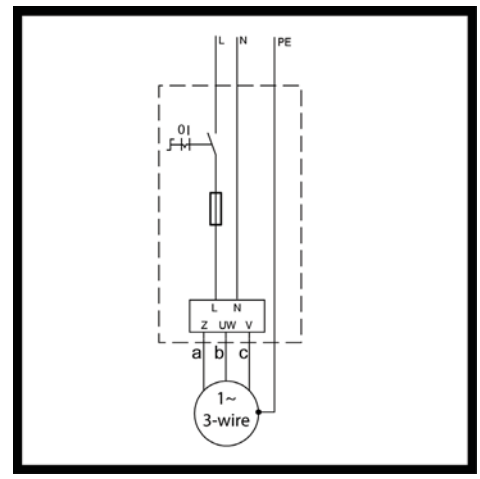

Fig.: 15
- 3 Super Stainless 3-wire connection (fig. 15)